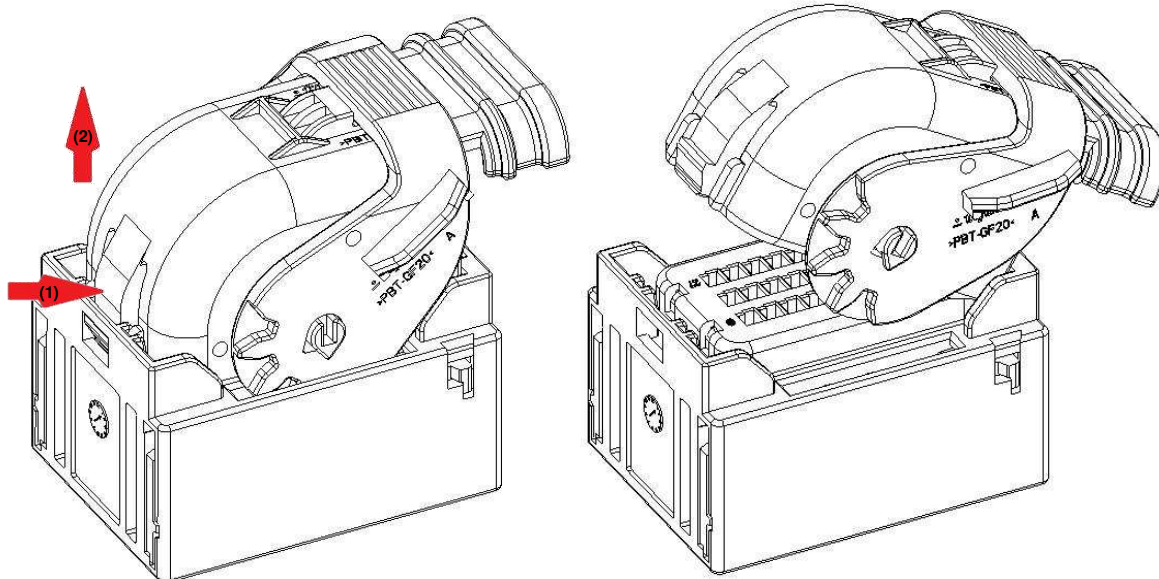

Fig. 16
- (2) Push by hand or proper tool in (1) direction and pull the cover in (2) direction. (See Fig.16)